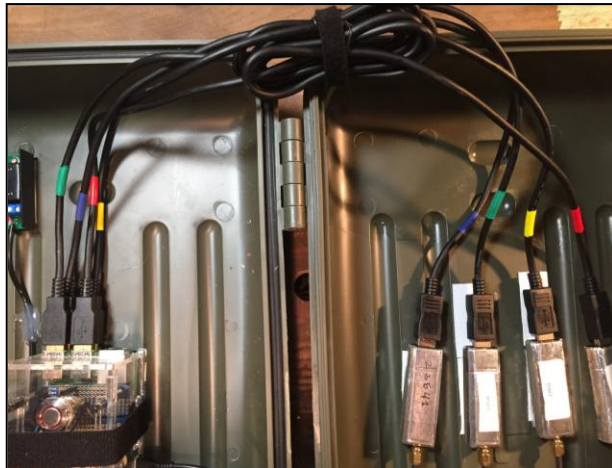

Figure 8: Use a Velcro strap to bundle the USB cables together.
- Run a USB extension cable from each FCD to a port on the Raspberry Pi. Each port is numbered and will correspond with the antenna which is connected to it (Figures 8 & 9).
- Use colored electrical tape to code each extension cable and each connector, both inside and on exterior of the case (Figures 8 & 10).